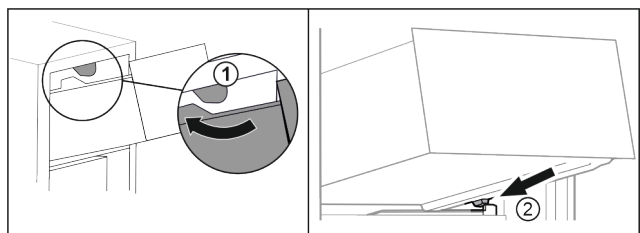

Fig. 78
- ▶ Guide drawer around the upper stoppers. Fig. 78 (1)
- ▶ Place drawer at an angle behind the lower stoppers onto moulded rib. Fig. 78 (2)